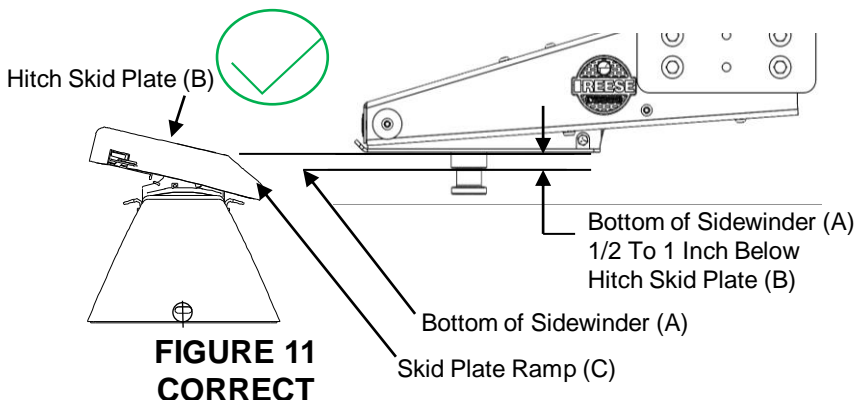

FIGURE 11
2. Using trailer jacks, adjust trailer height following the directions in the trailer manual so that bottom of trailer pin box (“A” in Figure 11) is ½ to 1 inch below skid plate (See “B” in Figure 11). During the hitching maneuver, the bottom of 5th Airborne should contact skid plate ramp (“C” in Figure 11).